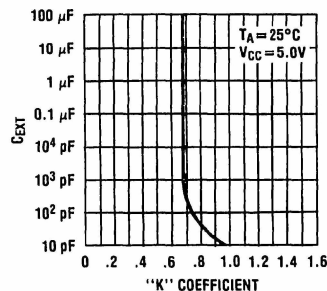

FIGURE 5
6. The "K" coefficient is not a constant, but varies as a function of the timing capacitor C_X . *Figure 5* details this characteristic.